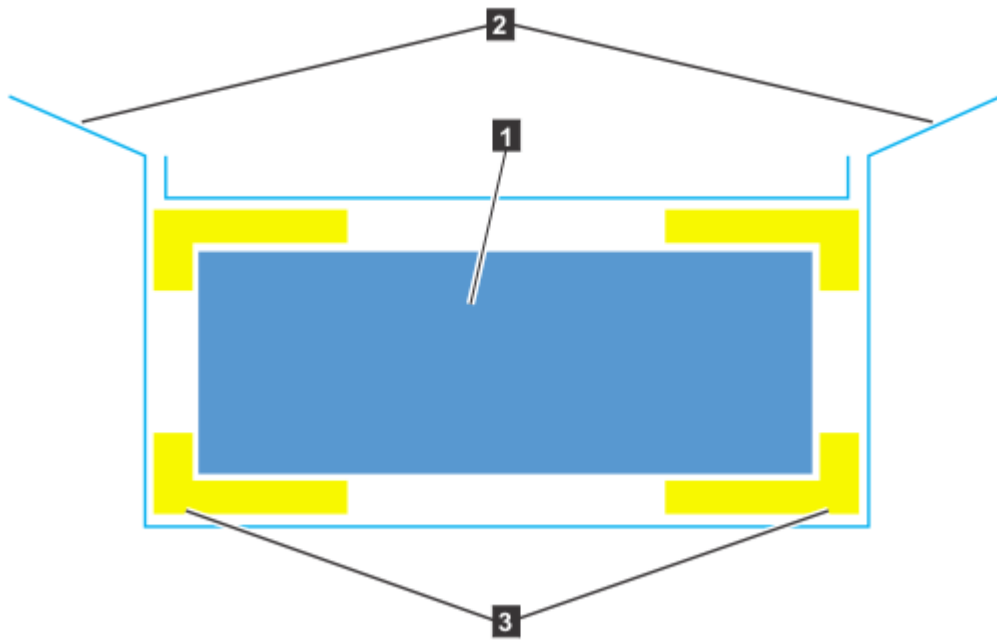

Figure 26. Packaging materials
3. Cut the corners of the shipping box and fold them down to uncover the sides and faces of the expansion enclosure, as shown in Figure 26 on page 37.